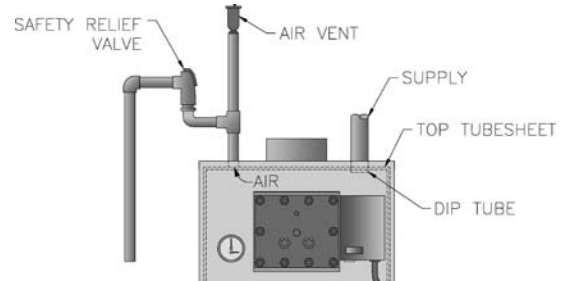

Figure 9: Air Vent and Safety Relief Valve Installation Detail
5. Install provided safety relief valve (for details see Figure 9).
3. Connect System supply and return piping to boiler. See Figures 9 and 10. Also, consult I=B=R Installation and Piping Guides. Maintain minimum ½ inch clearance from hot water piping to combustible materials.
- B. INSTALL SAFETY RELIEF VALVE.** See Figures 9, 10 and 11. Safety Relief Valve must be installed with spindle in the vertical position. Installation of the relief valve must be consistent with ANSI/ASME Boiler and Pressure Vessel Code, Section IV.
- C. AIR VENT.** An air vent or purge must be incorporated in the system to easily remove air from the boiler when the system is filled. The boiler has a built in dip tube which works with the air vent to clear the boiler of air. Improper application of the air vent will cause steaming in the boiler. See Figure 9.
Installation is not complete unless a safety relief valve is installed as shown in Figure 9.